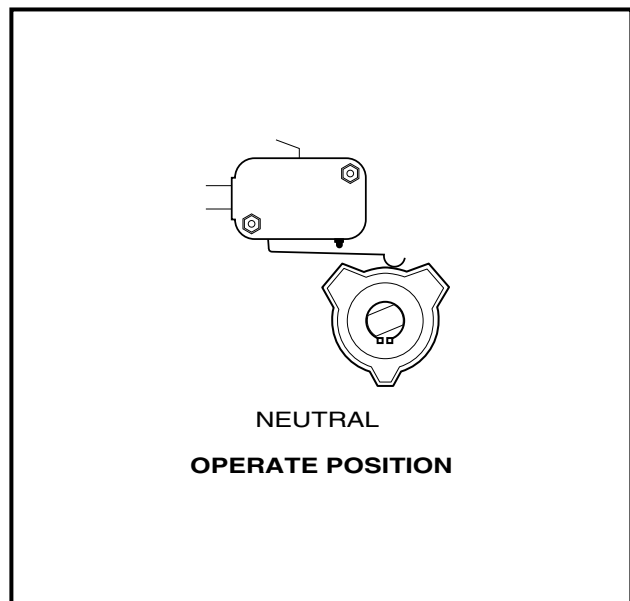

Figure 3-3 Neutral Lockout – Operate Position for Pedal-Start Vehicles
- 5.1.3. Return the neutral lockout cam to the OPERATE position (**Figure 3-3, Page 3-2**). Proceed to step 6.
- 5.1.3. Return the neutral lockout cam to the OPERATE position (**Figure 3-3, Page 3-2**). **See following NOTE.**